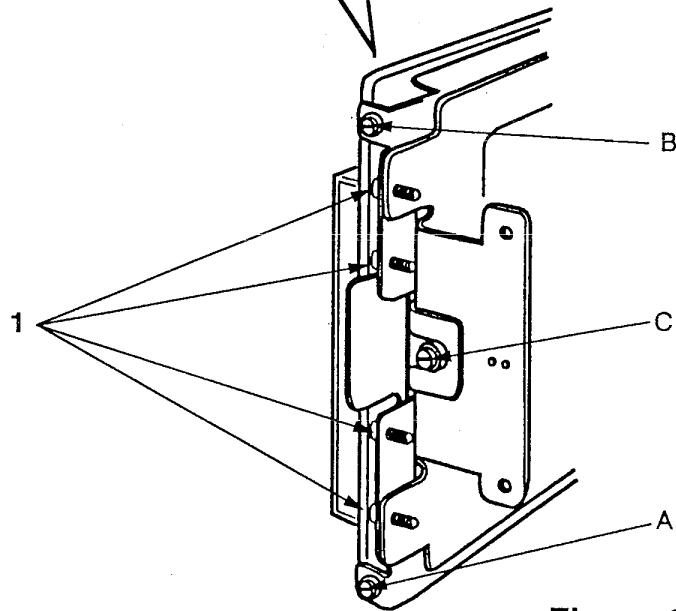

Figure 2
2. Loosen 4 screws "1" on the B panel. (Refer to Fig.2)